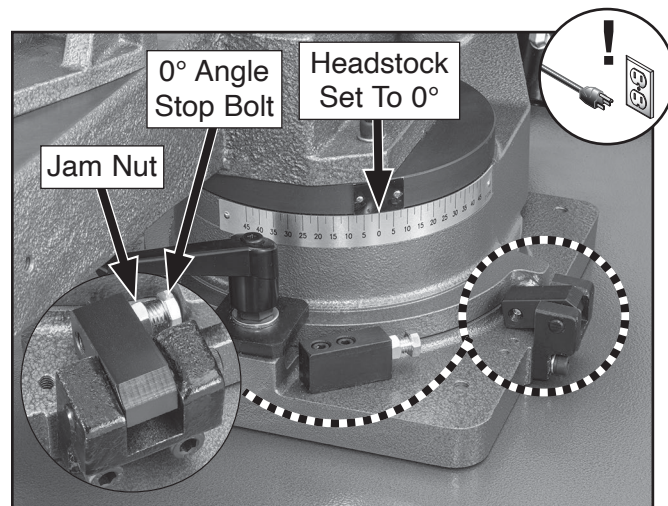

Figure 89. Location of 0° angle stop components.
3. Flip 0° angle stop bolt down (see **Figure 89**).
4. Adjust headstock until it contacts stop bolt (see **Figure 89**).